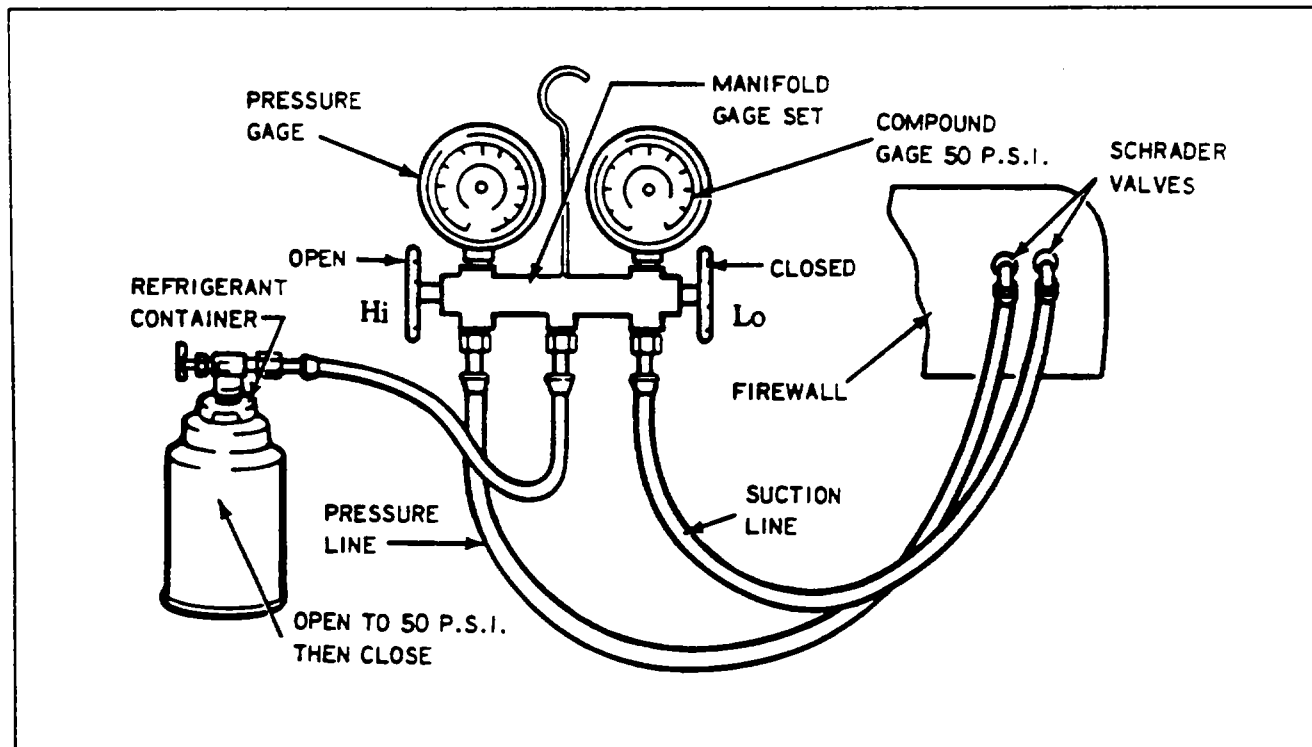

Figure 21-25. Leak Test Hookup
3. Close the low side manifold valve and open the high side manifold valve. (Refer to Figure 21-25.)